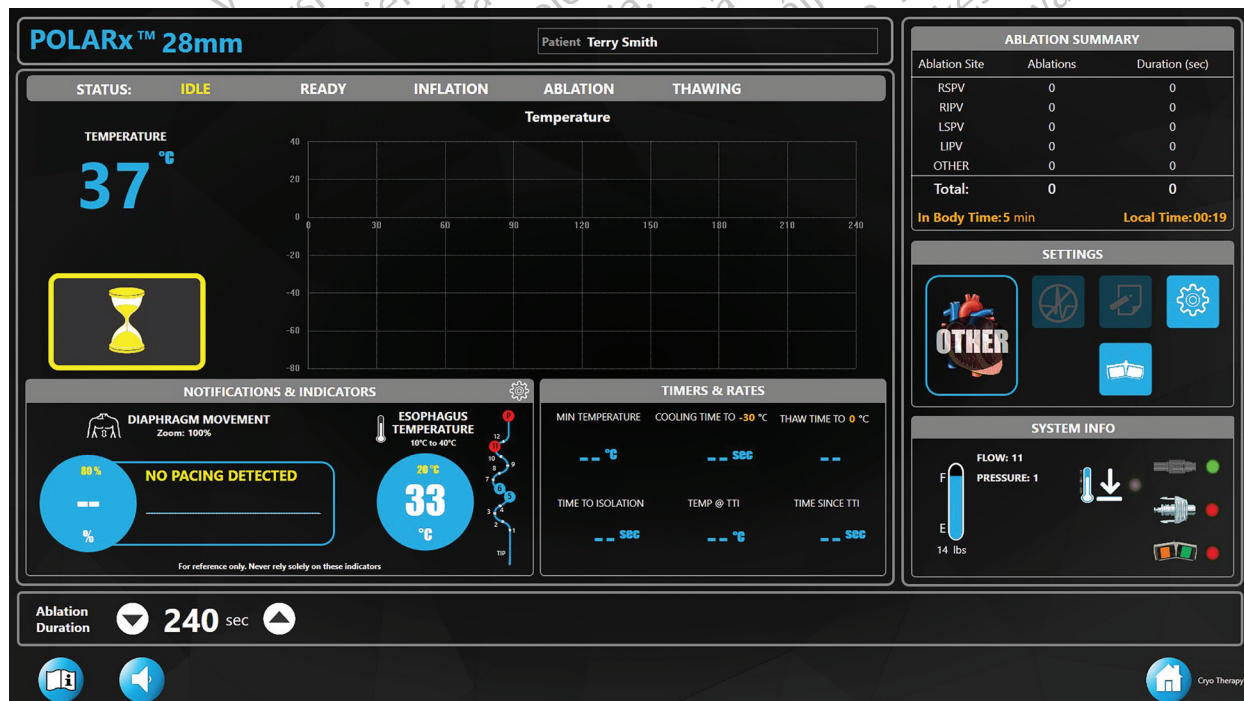

Figure 11. CIRCA™ S-CATH Esophageal Temperature Probe - Non-functioning sensors
- If any of the sensors are not functional, they will be highlighted in red (see Figure 11).